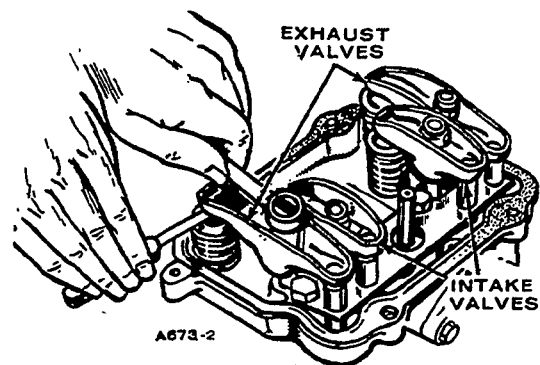
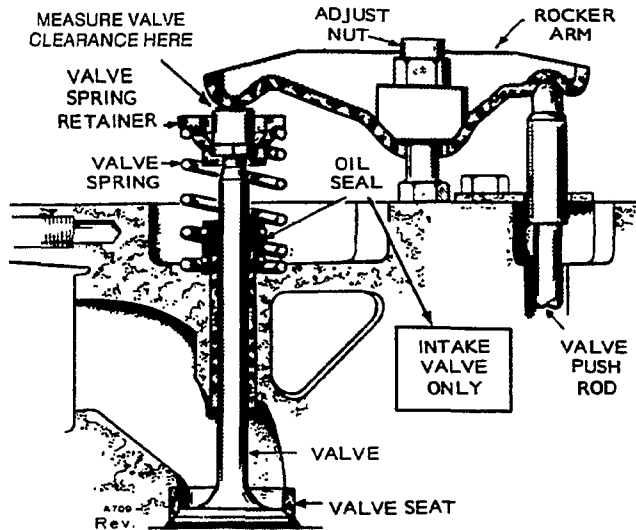

FIGURE 100. CHECKING VALVE CLEARANCES
FIGURE 101. SETTING VALVE CLEARANCE
- Using a feeler gauge, check clearance between rocker arm and valve, Figure 100. Increase or reduce clearance until proper gap is established; adjust with lock nut which secures rocker arm to cylinder head, Figure 101. Refer to *SPECIFICATIONS* for correct valve clearance setting for your particular engine.
9. Set valve clearance. See Figure 101.